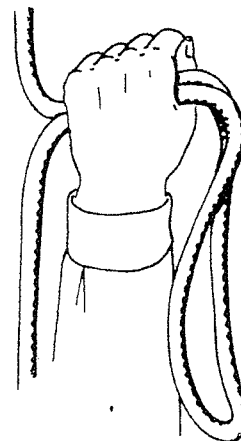

Fig. 3-4. A bight of rope—a loop that doesn't cross over itself.
**Bight.** A doubled section of rope usually taken from the center of the rope that doesn't cross itself—compare with loop below (fig 3-4).